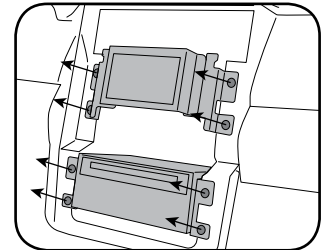

Fig. 1.6
6. Remove the four 7mm screws securing the radio display. Disconnect the wiring harness. Remove the four 7mm screws securing the CD player. Disconnect the harnesses and antenna connections. (Fig. 1.6)